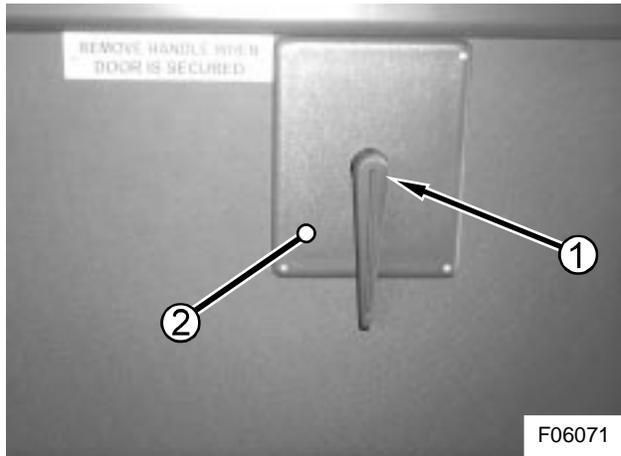

Figure 8: Emergency door handle (1) and linkage cover plate (2)
- 1) If an emergency door handle is fitted, undo the Allen set screw and remove the handle (see 1, Figure 8).
- 2) Undo and remove the self-tapping screws securing the panel which covers the emergency door handle linkage (see 2, Figure 8).